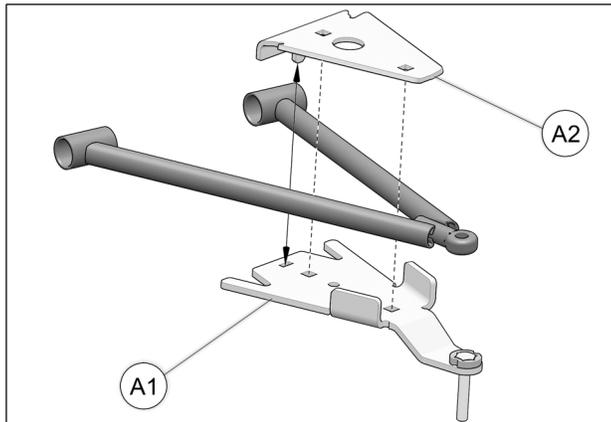

Fig. 19
- Position bottom part of anchor bracket (**A1**) under lower suspension arm. Position top part (**A2**) over suspension arm and insert tenon in mortise cut in bottom part. See Fig. 19